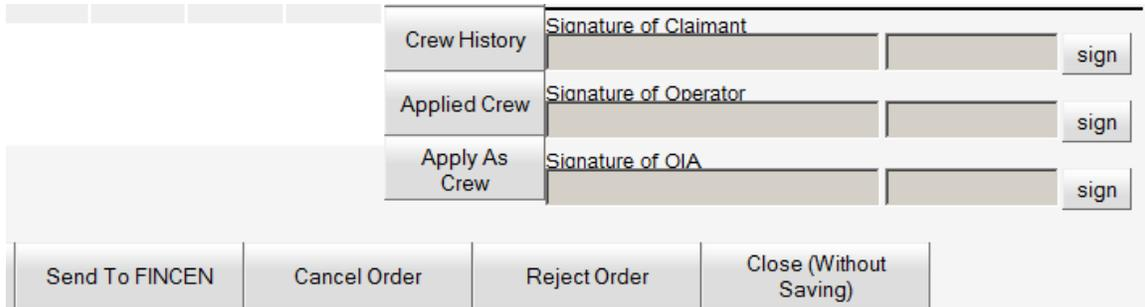

Figure 3-54 Signature Fields
1. Click the **Sign** button to the right of the **Signature** field (see Figure 3-54).